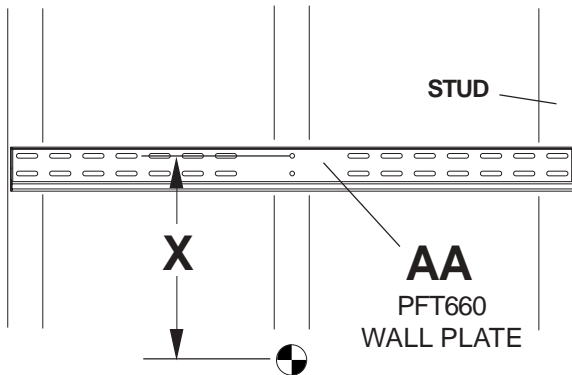

fig. 1.3
**1** Wall plate (AA) can be mounted to three studs that are 16" apart. Use a stud finder to locate the edges of the studs. Use of an edge-to-edge stud finder is highly recommended. Based on their edges, draw a vertical line down each stud's center. Place wall plate on wall as a template. The top mounting slots should be located above the desired screen center as shown in figure 1.3. **Note:** Screen tilt will determine wall plate location. Level plate, and mark the center of the six mounting holes. Make sure that the mounting holes are on the stud centerlines. Drill six 1/2" holes through drywall and metal studs. **Note:** It may be necessary to drill 5/32" pilot holes prior to drilling 1/2" holes.